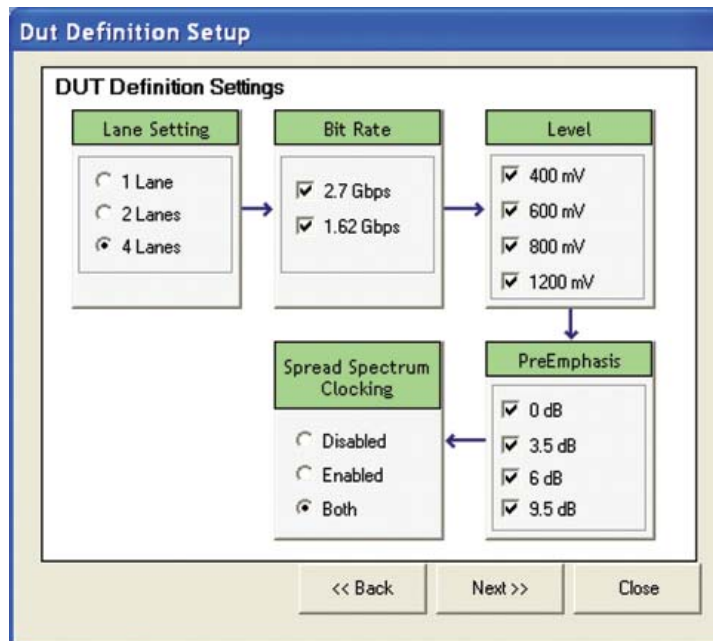
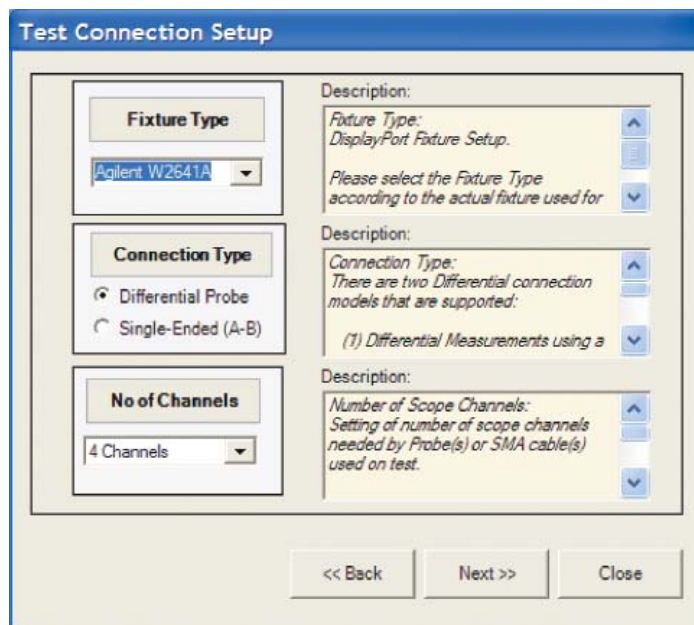

Figure 4. U7232A DUT definition entry in setup
Figure 5. U7232A Test connection setup screen
- DUT definition: select the capabilities of the DUT you wish to test, see Figure 4.
- Test fixture selection: select the test fixture used, see Figure 5.
- Connection type: single-ended versus differential connection: choose between using two channels of the scope to make a differential measurement using an 'A minus B' technique or by using a differential probe on each scope channel for each lane, see Figure 5.
- Number of channels: you may choose to test a 1, 2, 4 channel connection, see Figure 4. (Note: differential connection allows full lane selection, while single-ended can only support testing 1 or 2 lanes.), see Figure 5.
Critical information to guide the test process will be the device capability information. This is information about the test device such as the valid levels, pre-emphasis settings, number of lanes, bit rates and whether spread spectrum clocking is enabled or not. These capabilities are identified in the DUT definition screen in Figure 4.